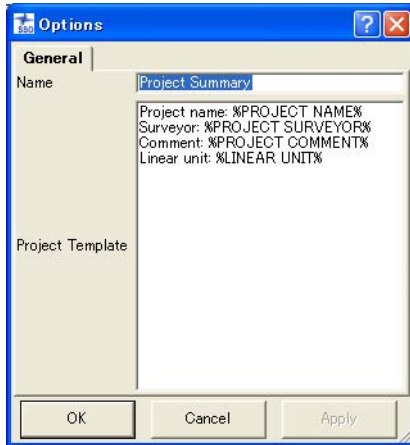

Figure 7-20. Item Options – Project Report
- Project Report – edit the name, type template items in the same manner as displayed on screen or delete template items, then click **OK** (Figure 7-20).